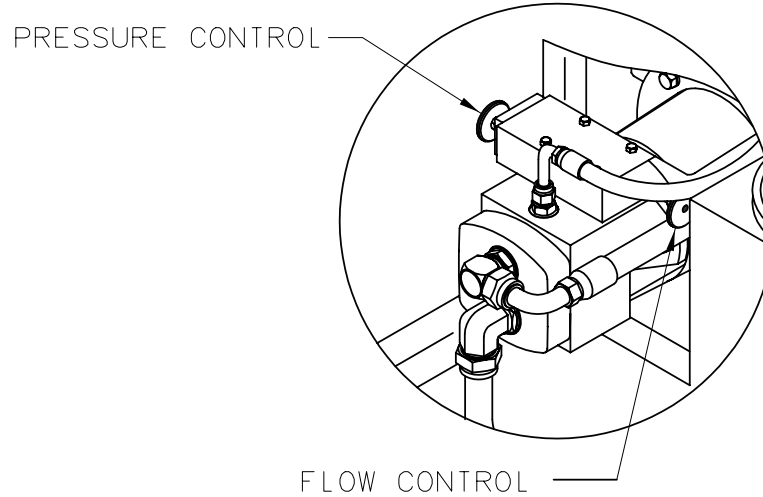

FIGURE 6.3.5 – Hydraulic Pump Controls
- Pump Control Access: See **Figure 6.3.5 – Hydraulic Pump Controls**.